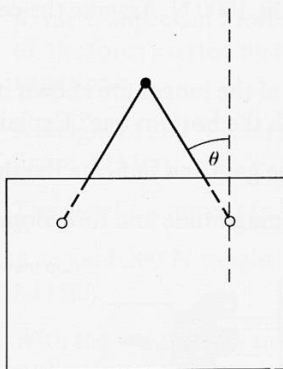

Figure A105
- 37(P)** A picture of weight  $W$  hangs from a hook by a single cord connected to two rings, as shown in figure A105, on the back of the frame. The picture does not touch the wall.